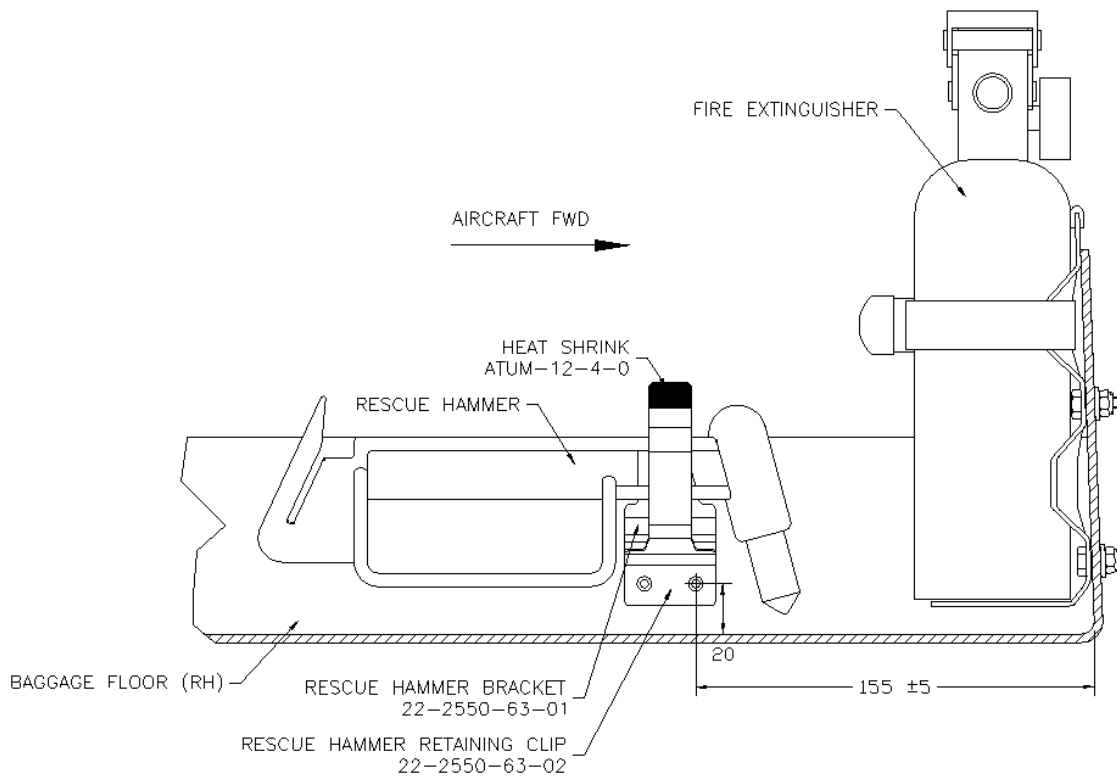

Figure 2
- 10.4 Position the rescue hammer bracket on the baggage floor. Position the rescue hammer retaining clip (p/n 22-2550-63-02) over the bracket as shown in Figure 2. Use Clecos as required.
- 10.6 Install heat shrink (p/n ATUM-12-4-0) on upper edge of rescue hammer retaining clip as shown in Figure 2.